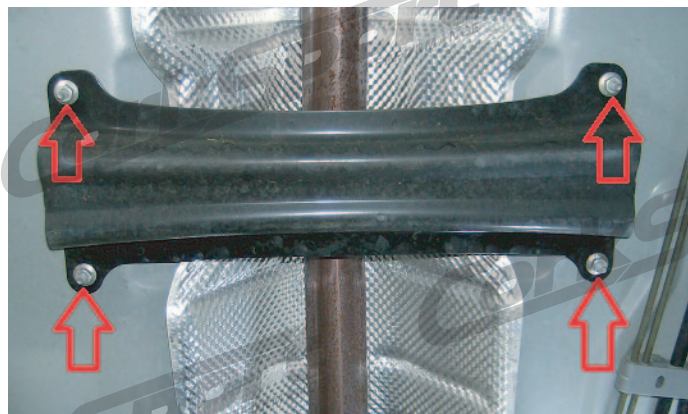

Figure 1A
A) Using a 12mm socket and or end wrench, remove the four (4) 12mm bolts that hold the tunnel chassis brace in place as shown by the red arrows in Figure 1A.